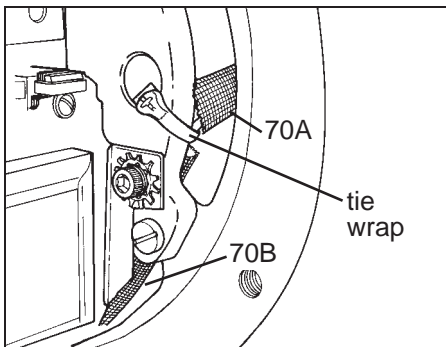

Figure 2
9. To protect wire insulation, slide fiberglass tubing (70A) over underside of support plate lead wires and into endplate lead wire outlet hole until it touches the elbow. (See Figure 2.)
11. Using tie wrap provided, install tie wrap so that wires are held away from pressure plate as shown in Figure 2.